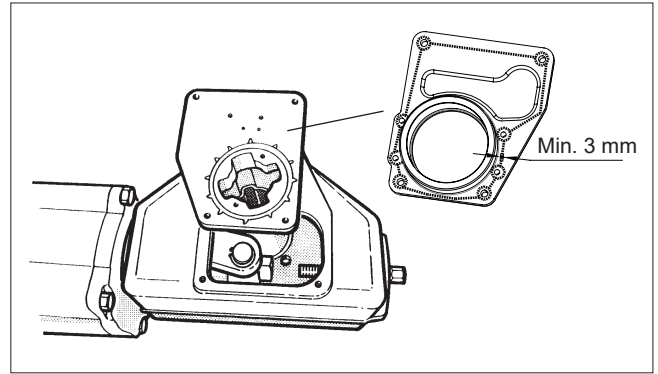

Fig. 14 Mounting the cover on the housing
- Apply bearing unit screw (29) thread with a sealant, e.g. Loctite 225, and tighten the screw as in Table 2.
- Fasten the housing cover temporarily so that the secondary shaft bearings function but the linkage can still be seen, see Fig. 14. Note the grounding rings (3A, 4A).
- Clean housing and cover contact area. Apply proper amount (min. 3 mm diameter continuous path, as shown in Fig. 14) of sealant, e.g. silicone mass, to the interface between housing and cover, and fasten the cover.
- Clean housing and cover contact area. Apply proper amount (min. 3 mm diameter continuous path, as shown in Fig. 14) of sealant, e.g. silicone mass, to the interface between housing and cover, and fasten the cover. See Table 2 for torque.
- Install new pressure outlet valve (58) on to housing cover.